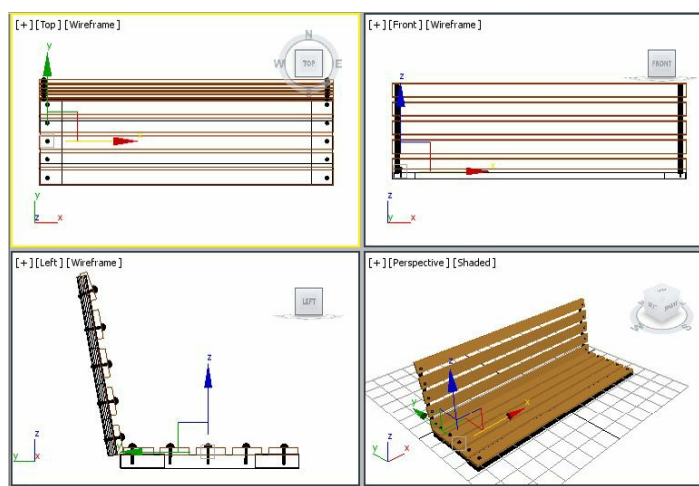

Figure 2-93 Alignment of left side seat rivets in viewports
15. Align *left side seat rivets* using the **Select and Move** tool in viewports, as shown in Figure 2-93.